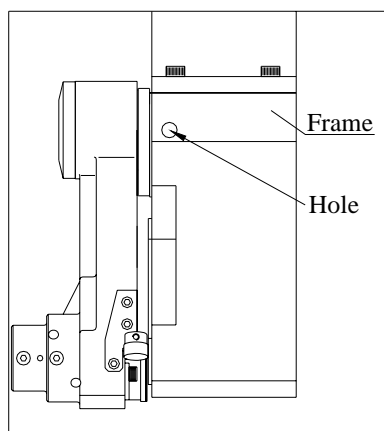

Fig.13
(1) Loosen the two set screws of the synchronous belt wheel in the right hole of the frame (Fig.13).